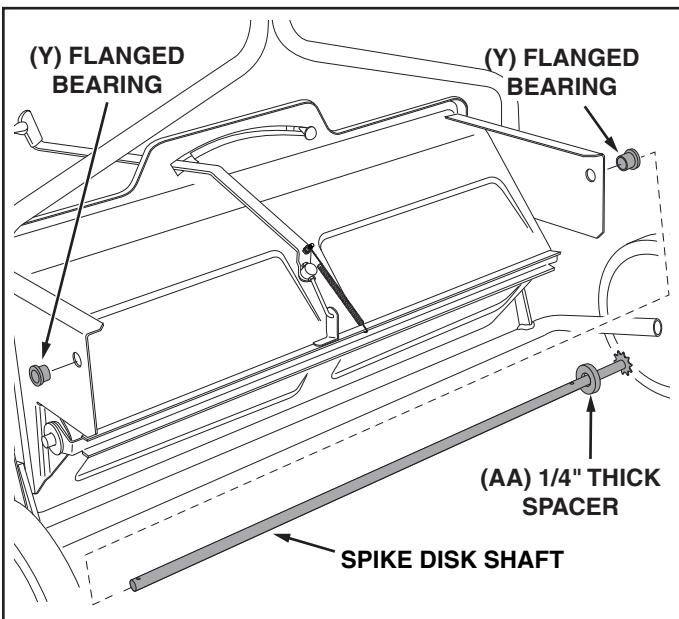

FIGURE 13
31. Install flanged bearings into both of the end plates. See figure 13.
32. Place the 1/4" thick spacer onto the spike disk shaft and then insert the shaft through the flanged bearing in the left hand end plate. See figure 13.